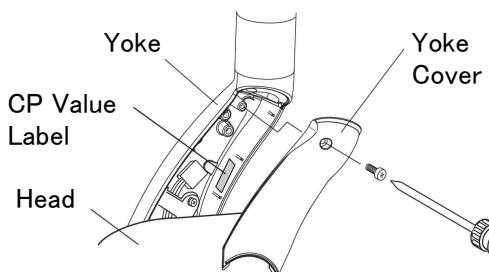

Fig. 2
3. Remove the screw and yoke cover. (Fig. 2)
2. Hold down the P (Patient), C (Cone), and kV switches together until "CP-XX" is displayed in the exposure time window. Press the exposure time adjusting switches (Δ or ∇) and adjust the CP number so that it is the same value as 60kV, which is written on the label inside the head yoke. (Fig. 2) Press the P (Patient) switch to save its value. Be sure to hold down the P (Patient) switch until you hear two (2) beeps.
3. Press the kV switch, and the LED will show 70 kV. Press the exposure time adjusting switches (Δ or ∇) and adjust the CP number so that it is the same value as 70kV, which is written on the label inside the head yoke. (Fig. 2) Press the P (Patient) switch to save its value. Be sure to hold down the P (Patient) switch until you hear two (2) beeps.